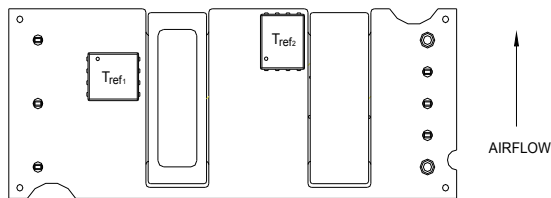
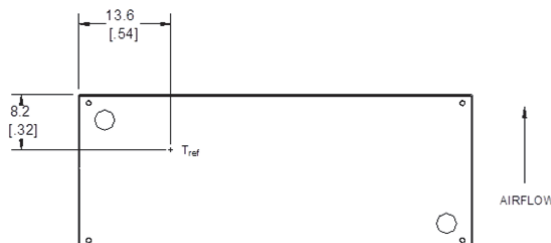

Figure 13. T_{ref} Temperature Measurement Locations for Open Frame Module.
Figure 14. T_{ref} Temperature Measurement Location for Module with Heatplate.
To provide protection under certain fault conditions, the unit is equipped with a thermal shutdown circuit. The unit will shutdown if the thermal reference point, T_{ref} , exceeds 122° and 123°C (Figure 13, typical or 105 °C (Figure 14, typical),, but the thermal shutdown is not intended as a guarantee that the unit will survive temperatures beyond its rating. The module will automatically restart upon cool-down to a safe temperature.
The thermal reference points, T_{ref1} and T_{ref2} , used in the specifications for open frame modules are shown in Figure 13. For reliable operation these temperatures should not exceed 122° and 123 °C respectively.
The thermal reference point, T_{ref} , used in the specifications for modules with heatplate is shown in Figure 14. For reliable operation this temperature should not exceed 100 °C.